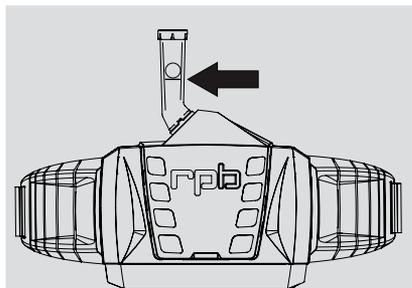

Figure 7.1
**WARNING!** Do not use the PX4 if the meter does not reach the minimum airflow rate on the flow meter. Low airflow will decrease the level of protection provided. See Fig 7.1.